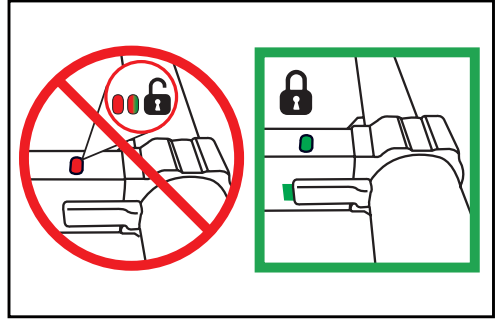

Figure 2
- 1.7 **ALWAYS** check that the ladder lock indicators below each extended section are 'full green' and ensure that all related ladder locks are correctly fully engaged before attempting to climb the ladder (see figure 2).
- 2.6 Check all ladder lock indicators (immediately below each extended section) are showing 'full green' (see figure 2).